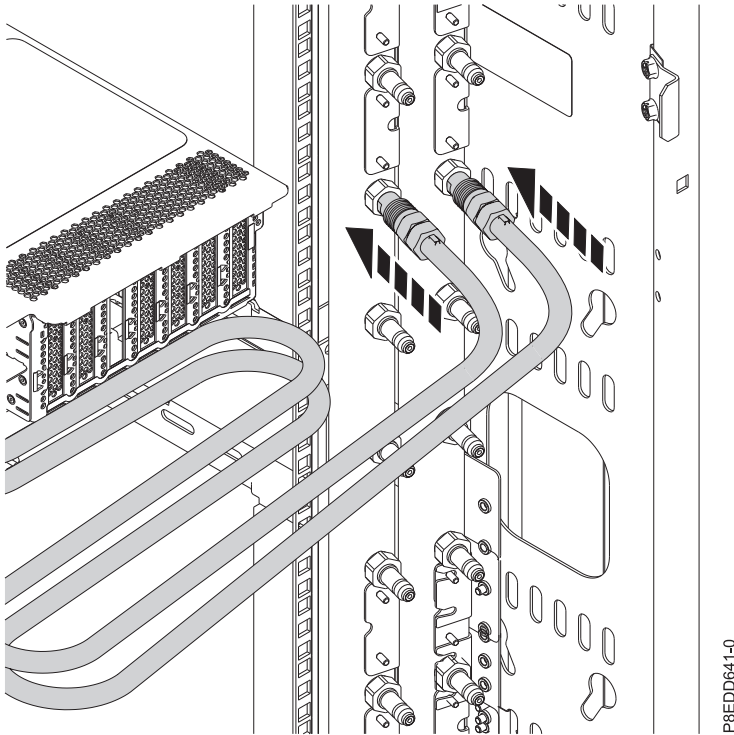

Figure 21. Connecting the water hoses
7. For a water-cooled system, connect the water hoses at the rear of the rack to the manifold, as shown in Figure 21 on page 18. Ensure that you plug the male hose into the female manifold plug, and plug the female hose into the male manifold plug.